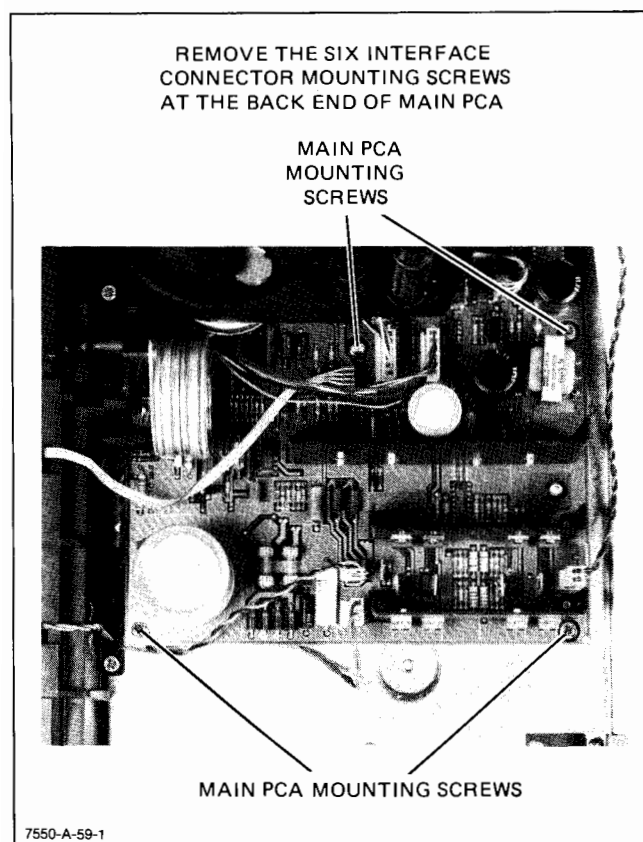

Figure 6-19. Main PCA Removal
- f. Refer to Figure 6-19 and remove the four Main PCA mounting screws shown at the following locations: